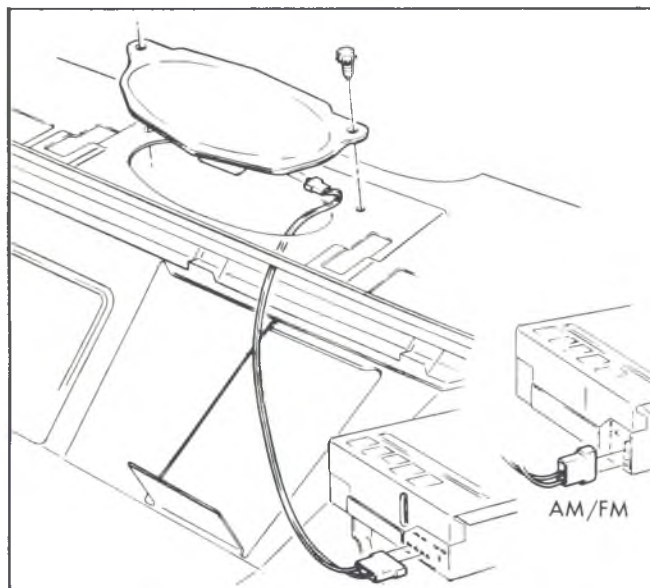

Fig. 4-Radio Speaker (C-K Models)
**SPEAKER****C-K Models****Replacement (Fig. 4)**